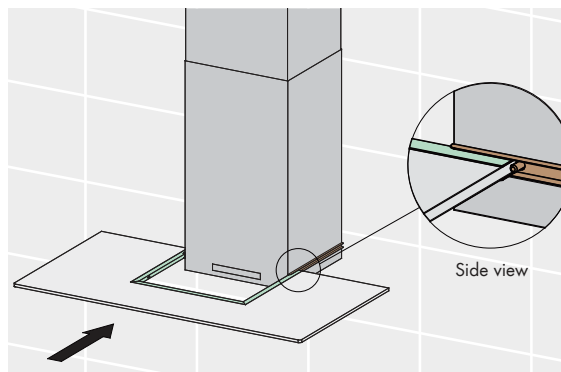
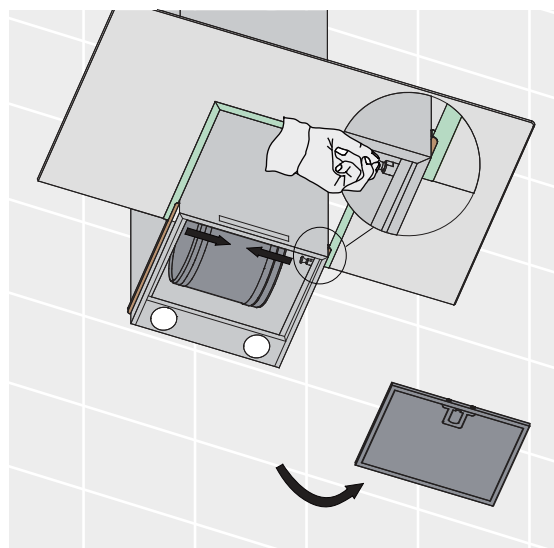

Fig. 17
Fig. 18
10. Insert the glass into the slot on the main body as show in Fig. 17, then pull the latches to inner side, same time push the glass in place (Fig. 18).
- The control switches are located on the front panel of the unit. See Fig. 18 below.